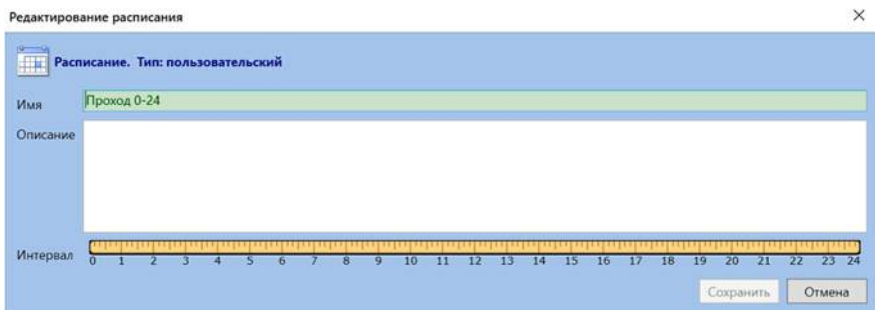

Fig. 9. Drawing up a custom schedule
1. Go to the **ACS (Access Control System) configuration, Schedules**. Draw up a custom schedule such as Pass 0-24 (Fig. 9).